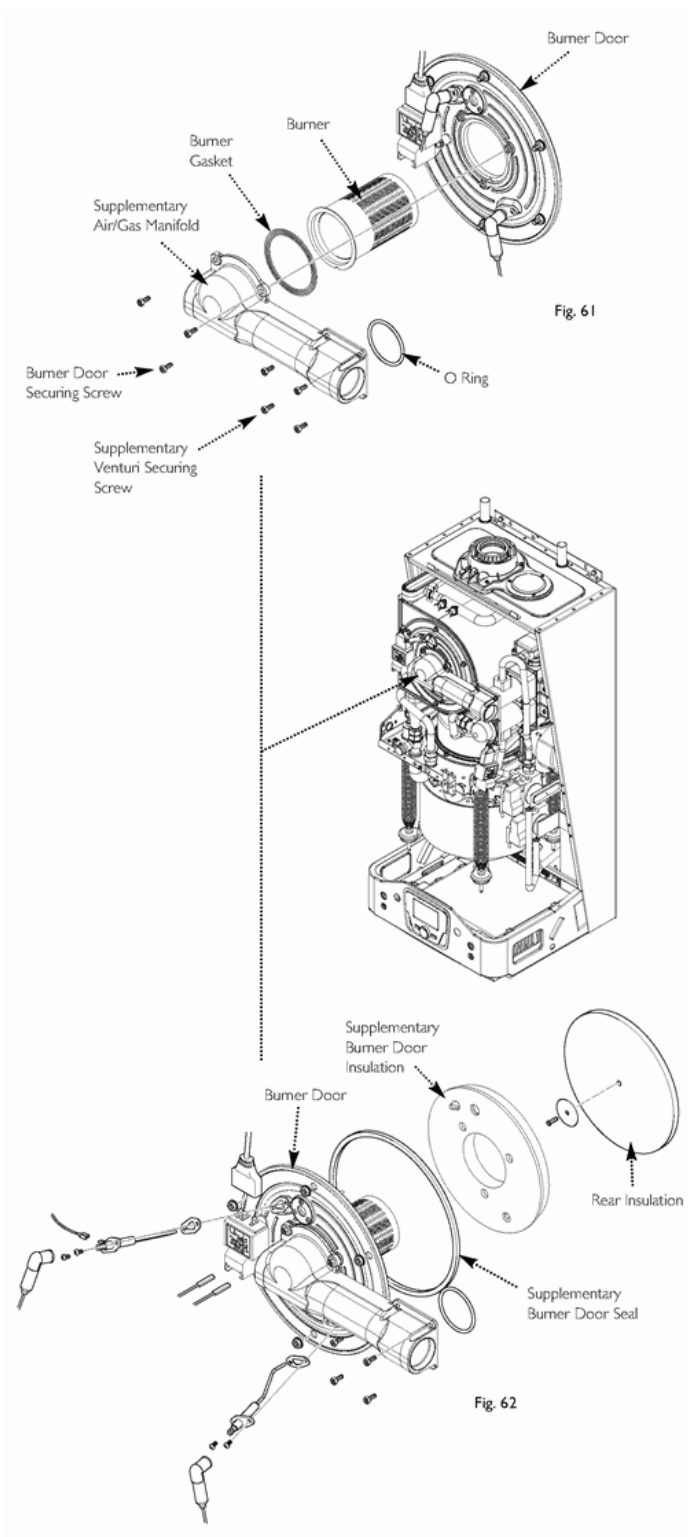

Fig. 61 & Fig. 62
14.9 Supplementary Burner (Fig. 61)